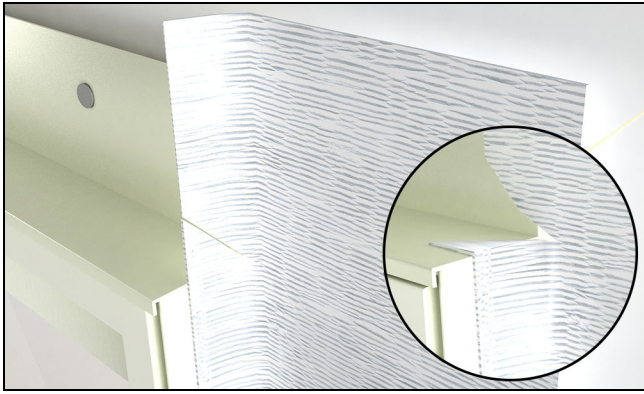

Figure 11
5. Lap vertical strips of adhesive flashing tape onto the unit and out over the WRB. Make small diagonal cuts at the head jamb as in Figure 11 to allow the membrane to fold back onto the exterior and frame.